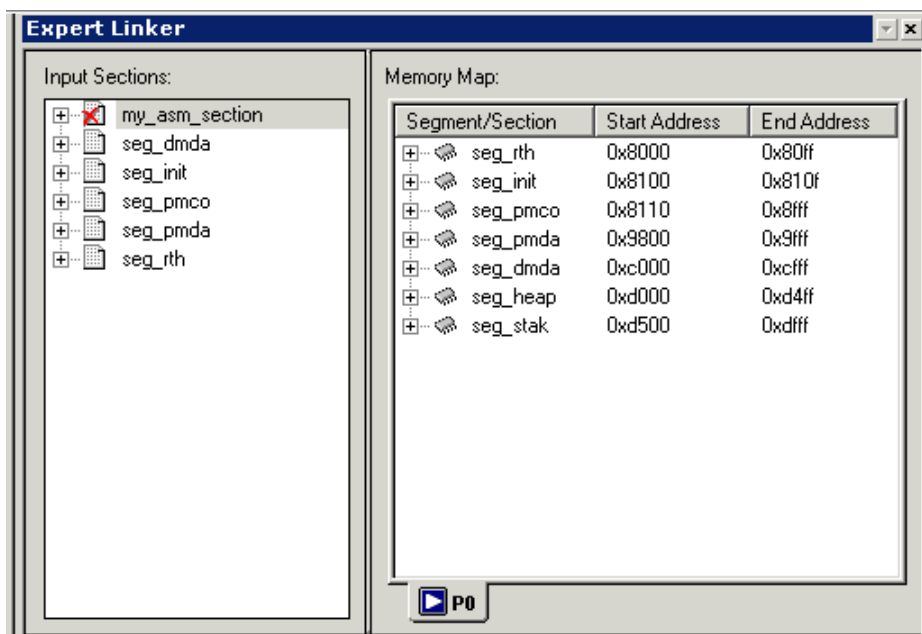

Figure 2-21. Expert Linker Window
4. In the **Project** window, open the **Linker Files** folder and double-click the `dot_prod_asm.ldf` file. The **Expert Linker** window (Figure 2-21) opens with a representation of your file.
The right pane contains a graphical representation of the memory segments that the Expert Linker defined when it created the `.LDF` file. Change the view mode by right-clicking in the right pane and choosing **View Mode**. Then choose **Memory Map Tree** to display the tree view shown in Figure 2-21 on page 2-30.